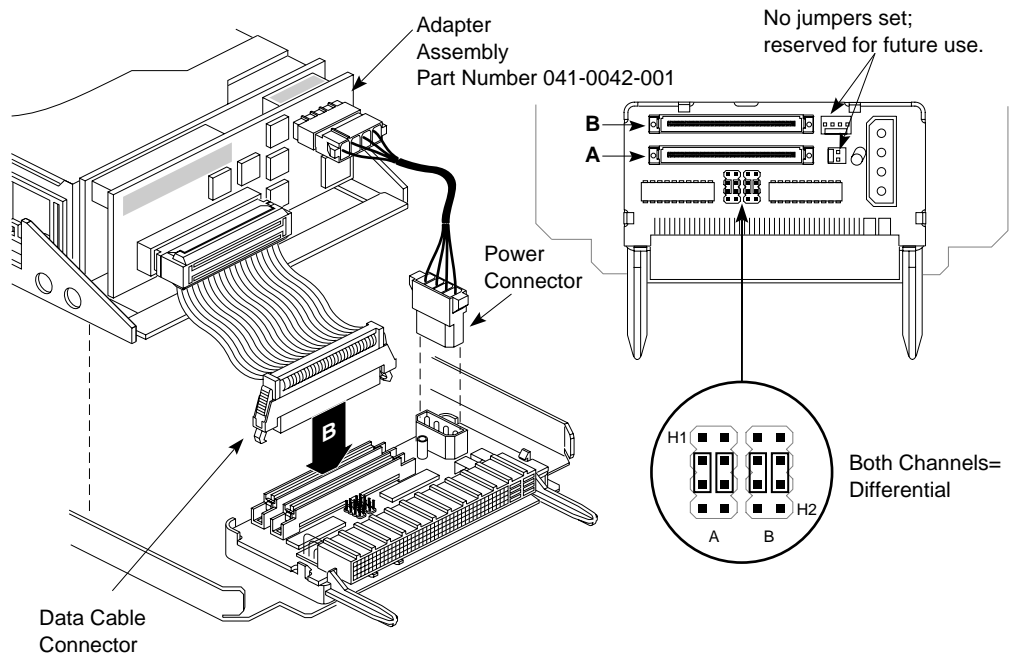

Figure 3-33 Channel Adapter Settings (Same Channel Configuration)
4. Install a SCSI cable between the connector on either the selected IO4 or mezzanine card, and a SCSI connector on the I/O panel as shown in Figure 3-33.